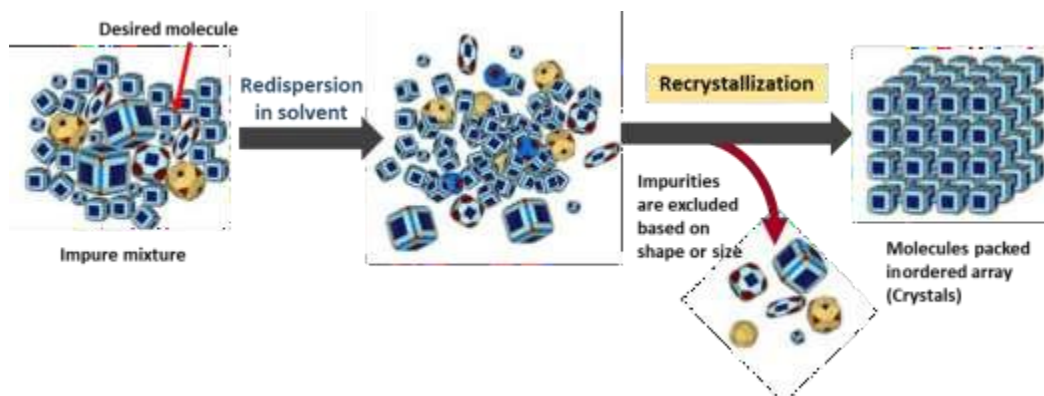

Figure 14. The crystallization process.
**Crystal formation** is a selective process and only molecules of the same substance can fit into the crystal lattice, excluding foreign molecules (impurities) which remain in solution (Figure 14).